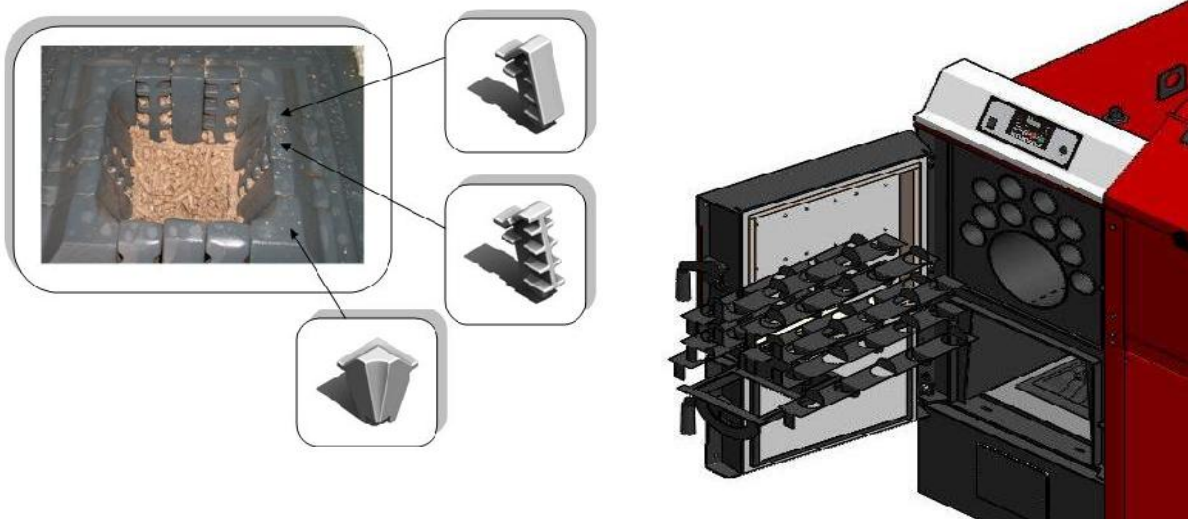

Figure 18. Display removing turbulators from boiler ECO COMFORT
- Once in a month it is necessary to open the top cover for cleaning, remove the turbulators and then from the whole area of the boiler the tar and soot should be removed (**figure 18**).